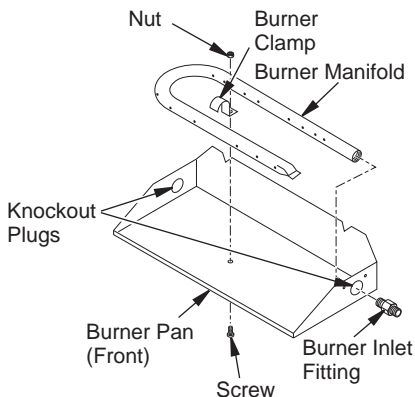

Figure 6 - Installing Burner
2. Using a hammer and screw driver, remove knockout plug from the side of the pan that corresponds to the gas line (see Figure 6).
5. Using thread sealant (resistant to the action of propane/LP gas) on larger end of fitting, screw the burner inlet fitting through hole and into burner manifold (see Figure 6). Tighten using a wrench.